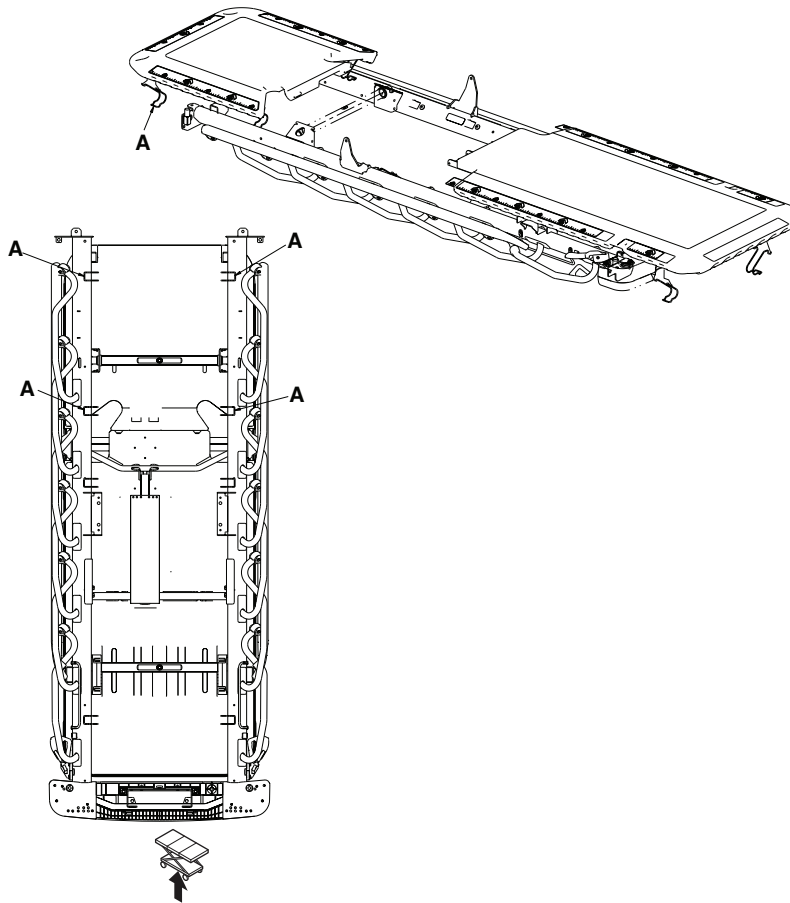

Figure 56 – X-ray panel replacement
- Unclip the four spring clips (A) (below the litter frame) that secure the head end X-ray cassette panel to the litter frame (Figure 56).